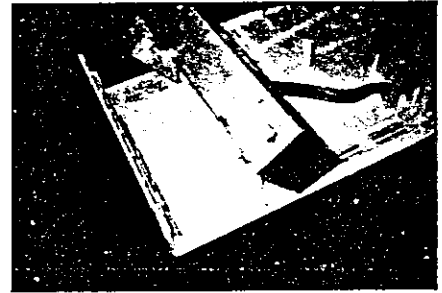

Fig. 3-1. Power Supply Insertion
**3.1.1** To install the power supply into the bottom case, insert the assembly on an angle to engage the slots in the bottom case. See Fig. 3-1.